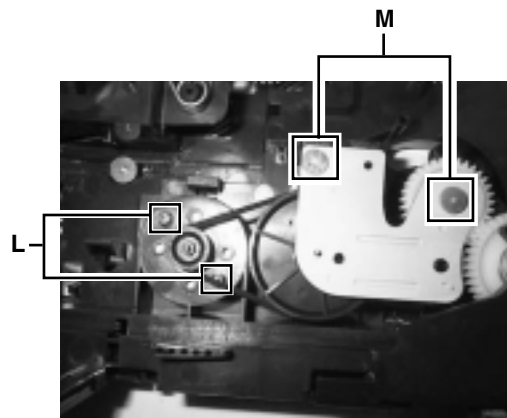

Fig.17
■ Replacing the loading motor and rotor belt of the CD changer (See Fig .17)